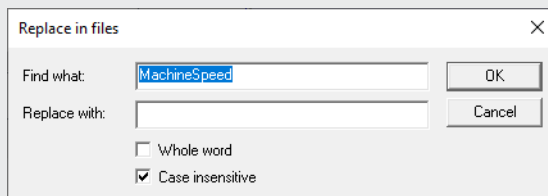

Figure 3-14: Replace in Files dialog box
- The search can be refined by forcing the search to a **Whole word**, and may be case sensitive or **Case Insensitive** (Figure 3-14).